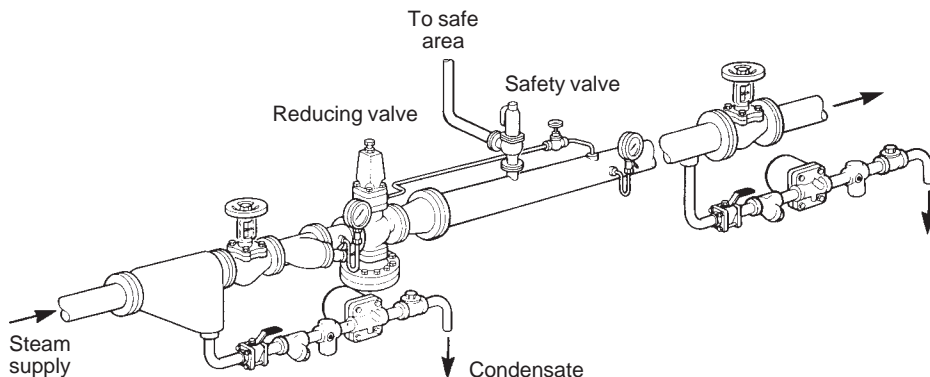

Fig. 1 Typical installation of safety valve, downstream of a steam pressure reducing valve station
- 3.1 Ensure that the installation is correct (Fig. 1), Page 2.